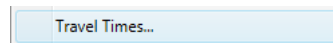

Figure 3-27 – Travel Times Menu
- **Travel Times** (see Figure 3-27): This option allows the operator to start/stop the generation of travel time messages and view current travel times; the software is described in detail in Section **Error! Reference source not found..**